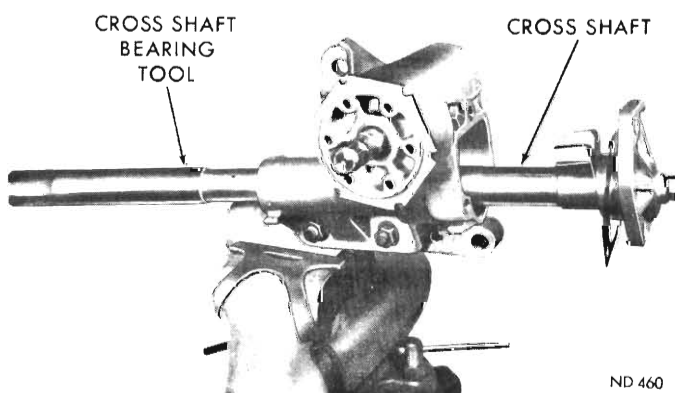
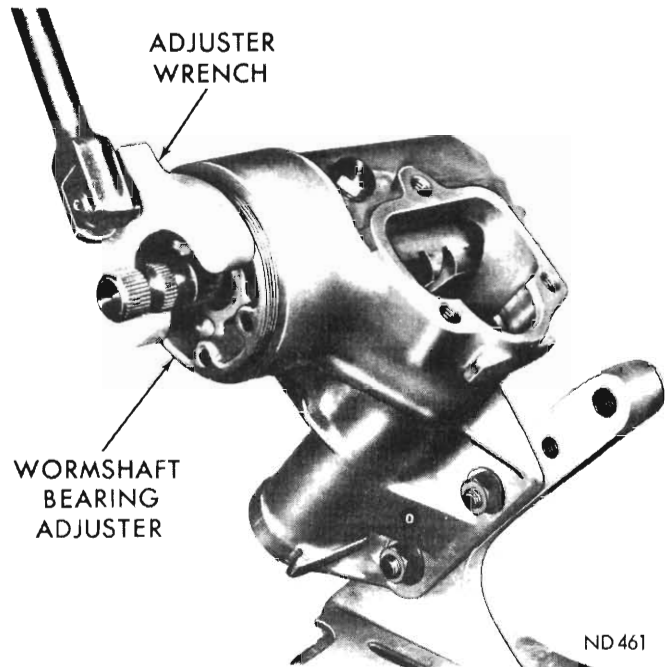

Fig. 4 - Removing or installing sector shaft and cover assembly (typical) (Tool E19C20)
Fig. 5 - Removing wormshaft adjuster
(2) Loosen the cross-shaft adjusting screw lock nut and back out the screw about two turns to relieve the load caused by close mesh between the ball nut rack and sector gear teeth.
(3) Position the steering wormshaft in straight-ahead position.
(4) Remove the bolts from the cross-shaft cover, then slowly remove the cross-shaft whilst sliding the arbor into housing (*See Fig. 4*).
(5) Remove the lock nut from the cross-shaft adjusting screw and remove the screw from the cover by turning the screw clock-wise.
(6) Slide the adjustment screw and shim out of the slot in the end of cross-shaft.
(7) Loosen the wormshaft bearing adjuster lock nut with a soft drift and remove the lock nut. Hold wormshaft from turning whilst unscrewing the adjuster, using tool wrench E19C25F (*See Fig. 5*).
(8) Slide the wormshaft adjuster off the shaft.
(17) Start the cross-shaft and adjuster screw into bearing in the housing cover. Then using a screwdriver through the hole in the cover, turn the screw counter-clockwise to pull the shaft into the cover.
(18) Install the adjusting screw lock nut, but do not tighten at this time.
(19) Rotate the wormshaft to centralise the ball nut.
(20) Place a new cover gasket on the housing cover.
(21) Carefully install the cross-shaft and cover assembly into steering gear housing (*See Fig. 4*).
(22) Make certain some lash exists between the cross-shaft sector teeth and the ball nut rack, then install and tighten the cover bolts to 25 lbs.-ft. torque.
(23) Install a new sector shaft oil seal using Tool E19C20A.